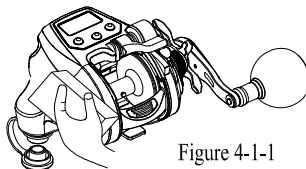

Figure 4-1-1
1. Clean the electric reel with neutral detergent and soft sponge (Figure 4-1-1).